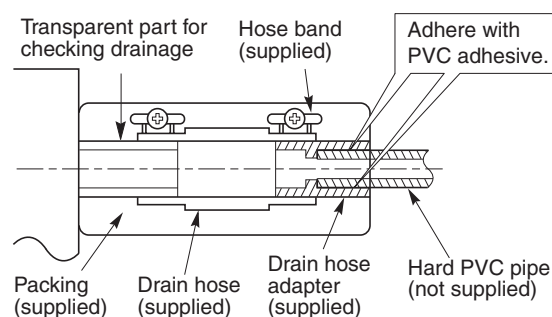

Fig. 3-63
- (1) Prepare standard hard PVC pipe for the drain and use the supplied hose band to prevent water leaks. The PVC pipe must be purchased separately. When doing this, leave a gap between the drain socket of the unit and the PVC pipe to allow the drainage to be checked. The transparent drain pipe allows you to check drainage. (Fig. 3-63)
(Fig. 3-63)